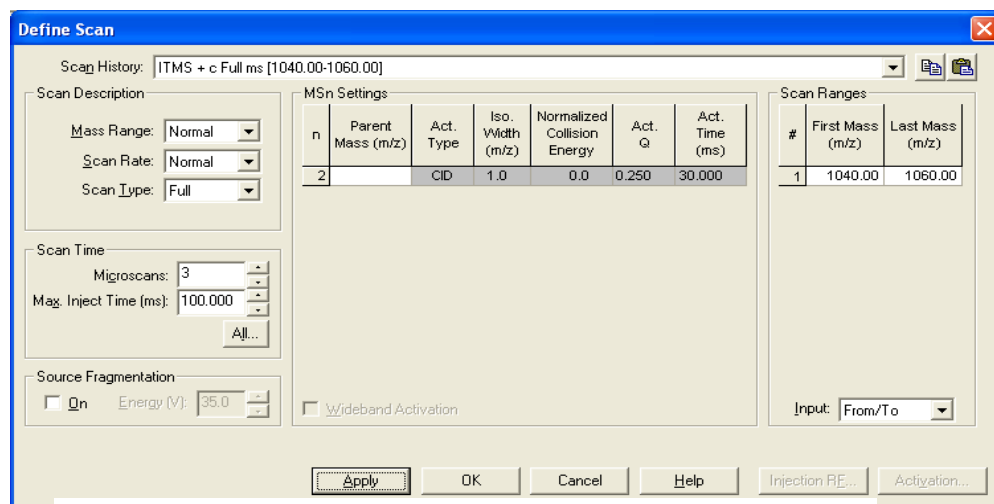

Figure 7.12.10 Define Scan as shown in XCalibur
4. Set the scanning to a narrow mass range(see Figure 7.12.10):